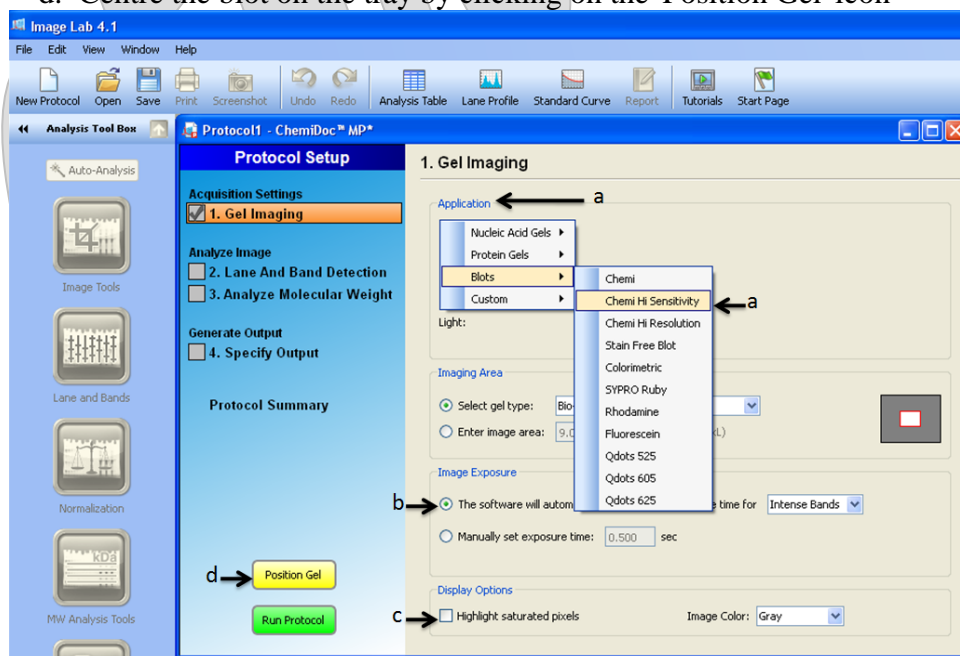

Figure 21
8.2.7. Set up the image capture with the following parameters (also see Figure 21):